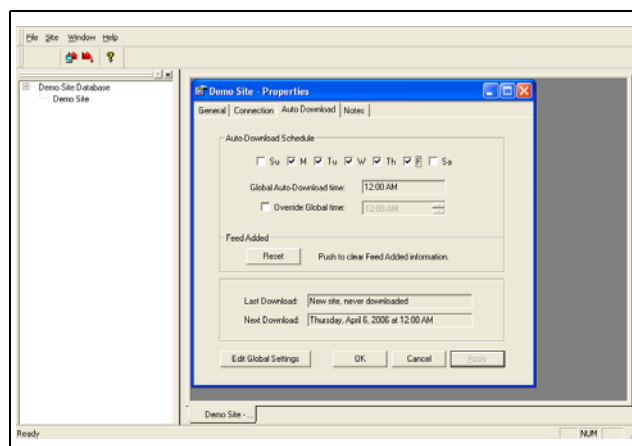

Figure 11G Auto Download Settings Tab
7. Auto download will let you schedule when you want information sent to you automatically. *(See Figure 11G.)*